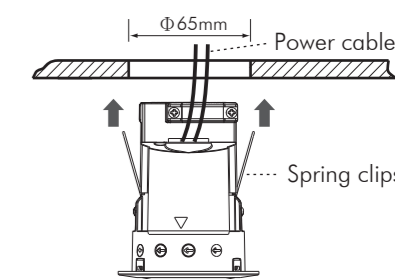

FIG.9
3.4.1.6 Close up two spring clips of detector and insert detector into the drilled hole on ceiling (See FIG.9).